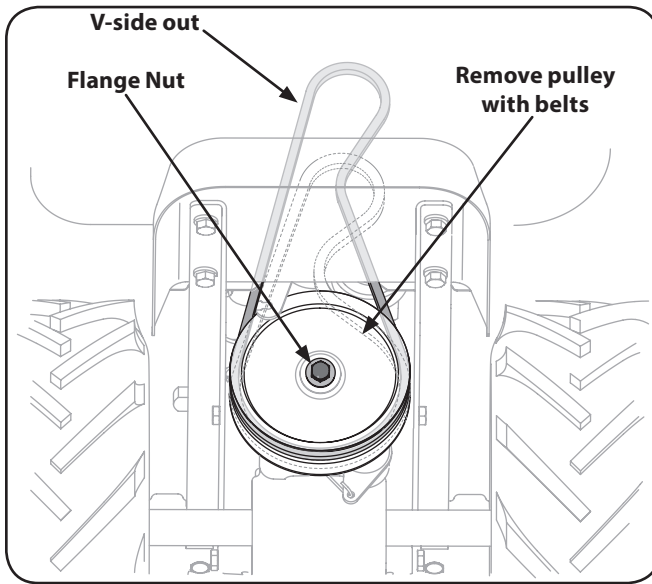

Figure 7-5
- Remove the flange nut securing the transmission drive pulley, then remove the pulley along with the two belts. See Figure 7-5.